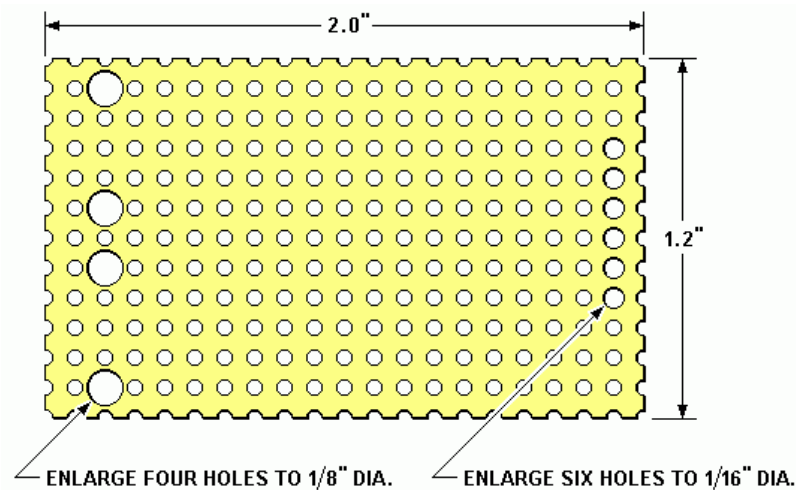

Figure 1. Blank Perf Board
3. PERF BOARD CONSTRUCTION. Score and break a piece of perf board 1.2" wide by 2.0" long (12 holes x 20 holes). Enlarge six holes to 1/16" diameter and four to 1/8" diameter, as shown in Figure 1.